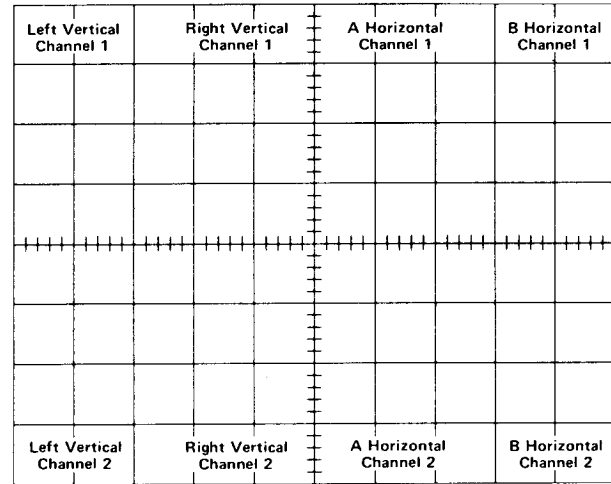
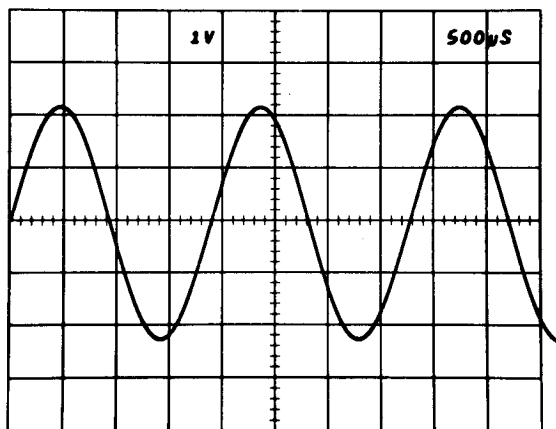

Fig. 2-32. Location of readout words on the CRT identifying the originating plug-in and channel (one complete frame shown, simulated readout).
Fig. 2-34. Typical readout display where only channel 1 of the Right Vertical and B Horizontal units is displayed.
**Frame**—A frame is a display of all words for a given operating mode and plug-in combination. Up to eight words can be displayed in one frame. Figure 2-32 shows the position of each word in a complete frame.
Up to eight words of readout information can be displayed on the CRT. The position of each word is fixed and is directly related to the plug-in unit from which it originated. Figure 2-32 shows the area of the graticule where the readout from each plug-in unit is displayed. Notice that Channel 1 of each plug-in unit is displayed within the top division of the CRT and Channel 2 is displayed directly below within the bottom division. Figure 2-34 shows a typical display where only Channel 1 of the Right Vertical and B Horizontal units is selected for display.
The Format Generator stage provides the output signals to the vertical and horizontal deflection systems of the instrument to produce the character display. The binary Channel Address Code from the Channel Counter stage is connected to this stage, so that the display from each channel is positioned to the area of the CRT associated with the plug-in and channel originating the word (see Fig. 2-32). The positioning current or decimal point location current generated by the Decimal Point Logic and Character Position Counter stage is added to the Horizontal (X) signal at the input to the Format Generator stage to provide horizontal positioning of the characters within each word. The X- and Y-Readout signals are connected to the Horizontal Amplifier and Vertical Amplifier through the X- and Y-Buffer stages.